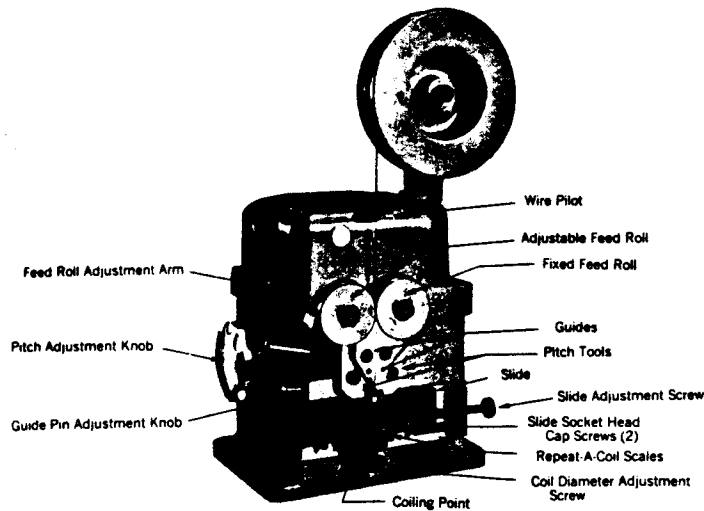
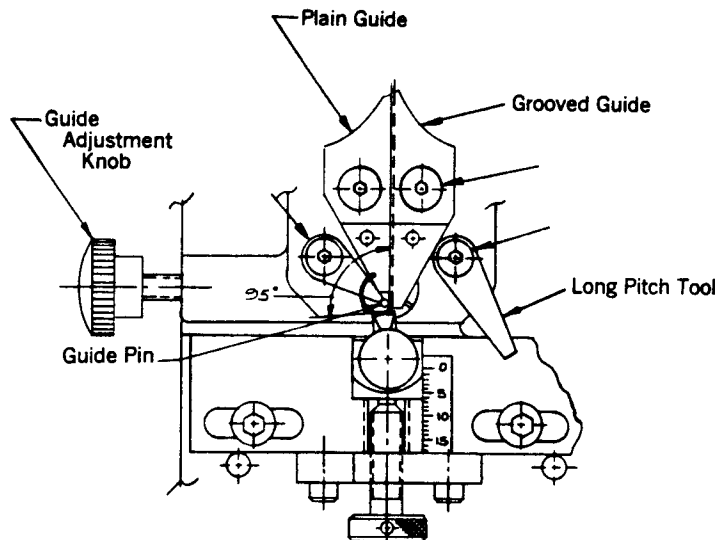
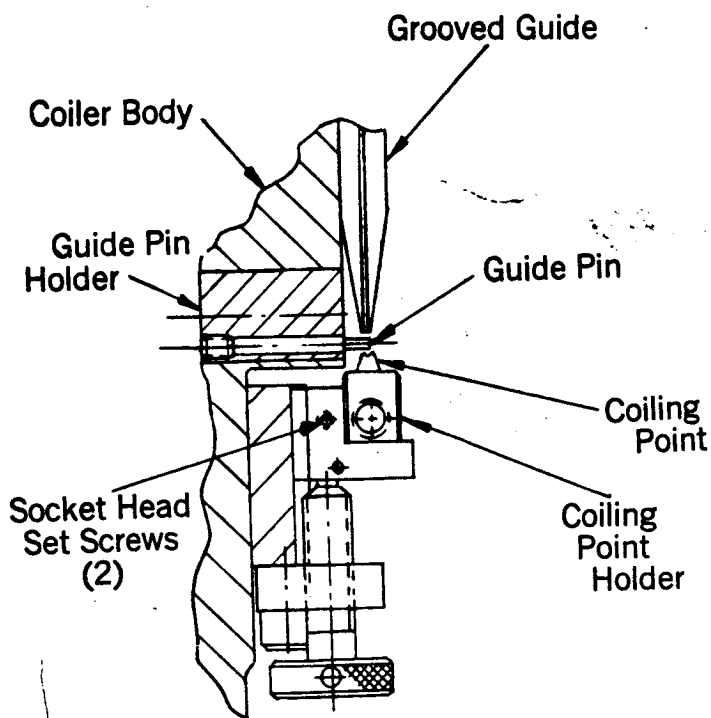

Figure 3
Figure 4
Figure 6
During coiler operation (See Figure 3), wire is forced downward by rotation of the two feed rolls through two wire guides, to a coiling point. The coiling point deflects the wire upward into an extremely accurate round coil. The position of the coiling point relative to the guides determines coil diameter.
1. Loosen Feed Roll Adjustment Arm (Figure 3) one or two full turns and manually move plain feed roll to the left. Loosen the button head screws which hold the guides to the coiler body. Move coiling point, holder and block downward by turning Coil Diameter Adjust-Screw. Loosen the two Slide Socket Head Cap Screws and move slide assembly to the right as far as it will go. Pull old wire (if present) down through guides and discard. You are now ready to install new wire.
4. Push guides tightly together (Figure 4) with a slight upward pressure. Hold in that position and firmly tighten guide screws.
5. Bend wire approximately 90° around guide pin (Figure 4), then turn Guide Pin Adjustment Knob clockwise until wire just touches both the grooved guide and pin. **CAUTION: Too much tension will bind wire feed or break guide pin.** Always use the largest possible guide pin—change to a smaller pin only when making coils having extremely small inside diameter.
center of tool holder is directly under wire (See Figure 4). Use medium size coiling point and adjust in tool holder so groove on top surface is parallel to front surface of machine. Rotate point to an approximate 95° angle as shown in Figure 4. Finger tighten slide socket head cap screws.
Be sure the Pitch Adjustment Knob is set at zero (Figure 3) and the pitch tools are retracted snugly against the coiler body. As shown in Figure 6, the coiling point holder is secured to the elevating block by 2 socket head set screws, one on each side of the block. Loosen both set screws and pull coiling point and holder about $1/32$ " away from the elevating block. A small screw driver wedged between holder and block will facilitate this operation. Lock holder in the new position and run out a few coils. This new position will preload the coil and should cause the coils to wind close together. If coils are not close wound or the amount of pretension is not sufficient, move the coiling point holder a bit further away from the block. A little experience will indicate the correct position of the coiling point holder. If the holder is moved too far from the block, pretension will decrease to a point where coils will become open wound. Use side cutting pliers or nippers to cut coils at desired length.
make open coils, turn the Pitch Adjusting knob (Figure 3) counterclockwise. This operates a cam inside the coiler housing which causes the two pitch tools (Figure 4) to move away from the coiler body so one of the tools will contact the coil being formed. As the knob is turned to a larger number more force is exerted on the coil. This further deflects the wire and the pitch increases. The Pitch Adjustment Knob will stay in any position at which it is set—no need to hold it by hand.